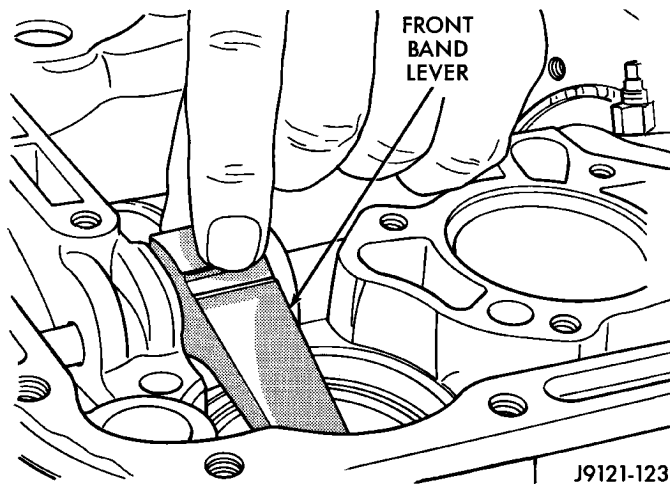
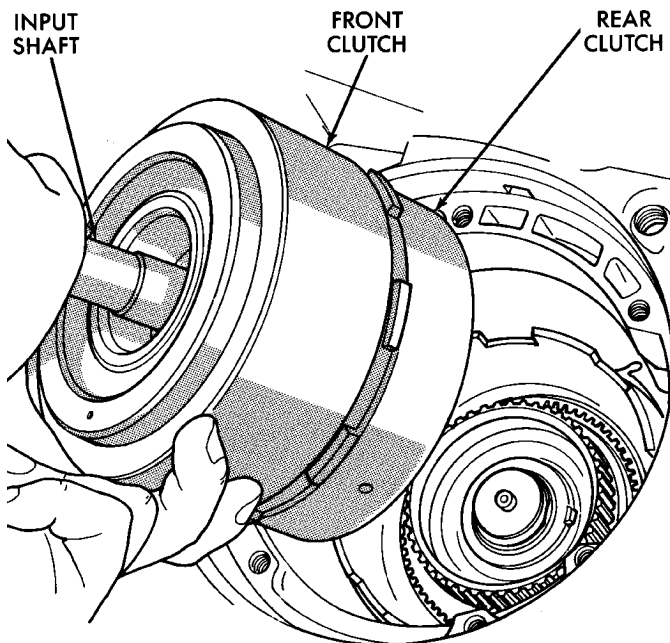

Fig. 96 Removing/Installing Front Band Lever
Fig. 97 Removing Front/Rear Clutch Assemblies
(19) Remove front band lever (Fig. 96).
(20) Remove front band lever shaft plug, if necessary, from converter housing.
(21) Remove front band lever shaft.
(22) Remove front and rear clutch units as assembly. Grasp input shaft, hold clutch units together and remove them from case (Fig. 97).